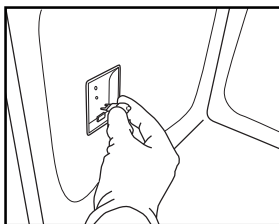

Fig. 11
4. Replace the lamp (see note for lamp type) (Fig. 11).